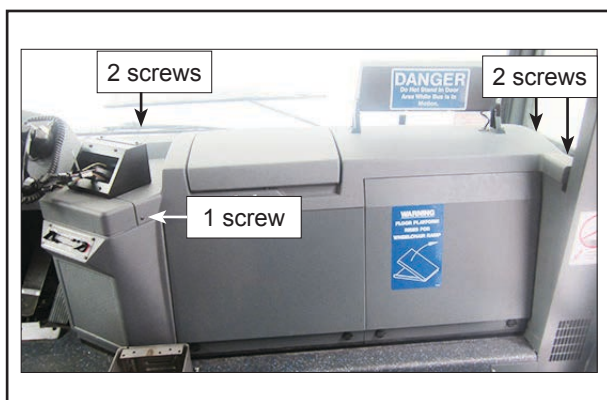

Figure 3 - Location of the Screws
- 1.3. Remove four screws on the top, and one in the front of the dash See Figure 3.